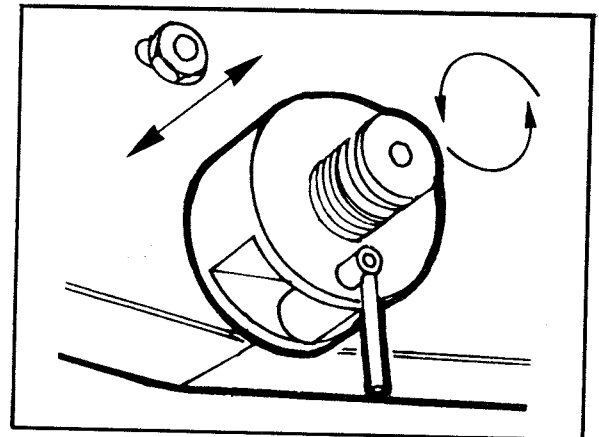

FIGURE 15
- 2) TAPE WEB ALIGNMENT - Refer to Figure 15.